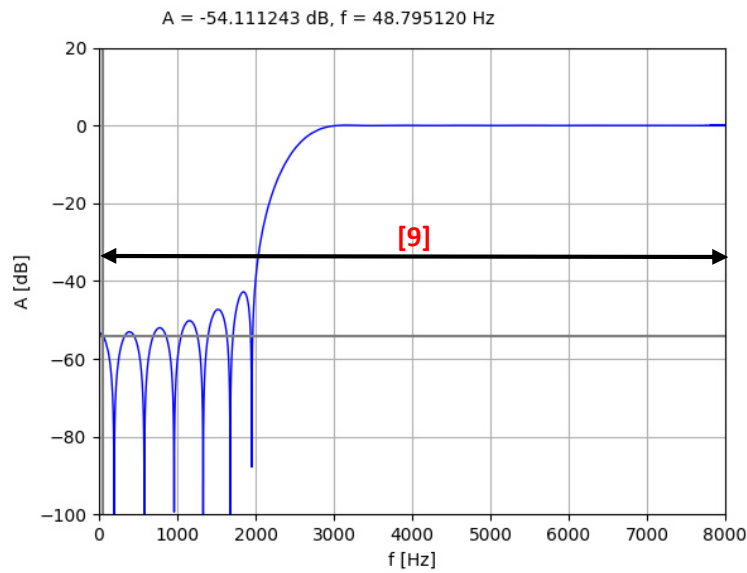

FIGURE 10: FREQUENCY RESPONSE OF A HIGH PASS FILTER
- **[9]** Number of steps: number of the data points of the frequency-based simulation between 0 Hz, and the half of sampling frequency (see Figure 10 below). The higher this value, the longer simulation and visualisation time must be expected. The lower this value, the less information is delivered by the simulation.
Thus, a data point of the frequency response (see Figure 10) can be calculated, as: